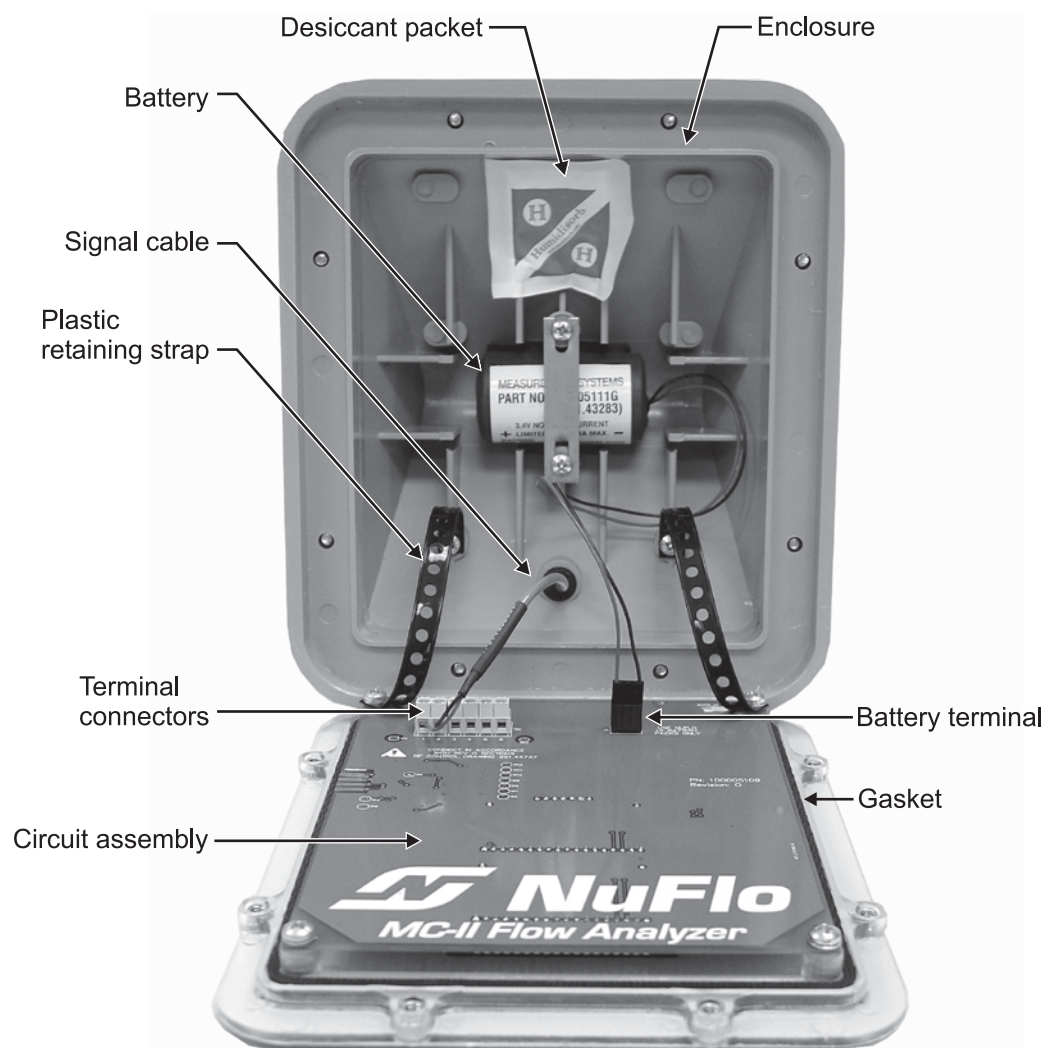

Figure 2—Nomenclature (interior)
3. Position the MC-II on the flowmeter, carefully pulling excess signal cable through the strain relief cord connector on the side of the upper mount (see Figure 2, page 3).